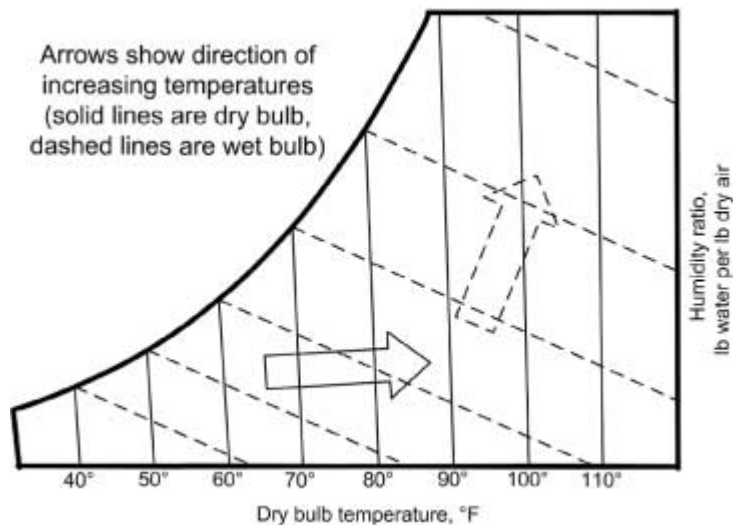

FIGURE 2.6 Psychrometric chart showing lines of constant dry-bulb and wet-bulb temperatures.
- As water evaporates, it cools off. This is the basic principle behind evaporative cooling. The *wet bulb* temperature is the temperature caused by the evaporation of water at a given pressure. Figure 2.6 shows how the wet bulb temperature changes in the psychrometric chart.